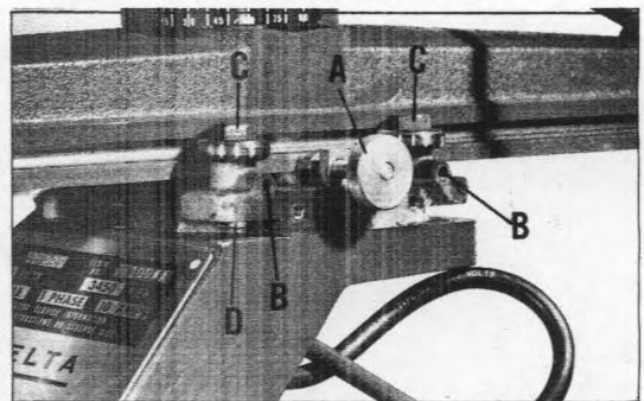

Fig. 32
3. To adjust, loosen rip lock (A) Fig. 32, and loosen set screws (B) on both front and rear bearings to release lock action on eccentric shafts (C).
4. Place wrench on hex nut (D) that locks shaft (C) Fig. 32 and loosen both front and rear bearings.
5. Place wrench on eccentric shaft (C) Fig. 32 and turn until all play is removed. Do the same to the rear bearing.
6. Retighten hex nuts (D) with wrench and lock set screws (B) Fig. 32, at both bearings.